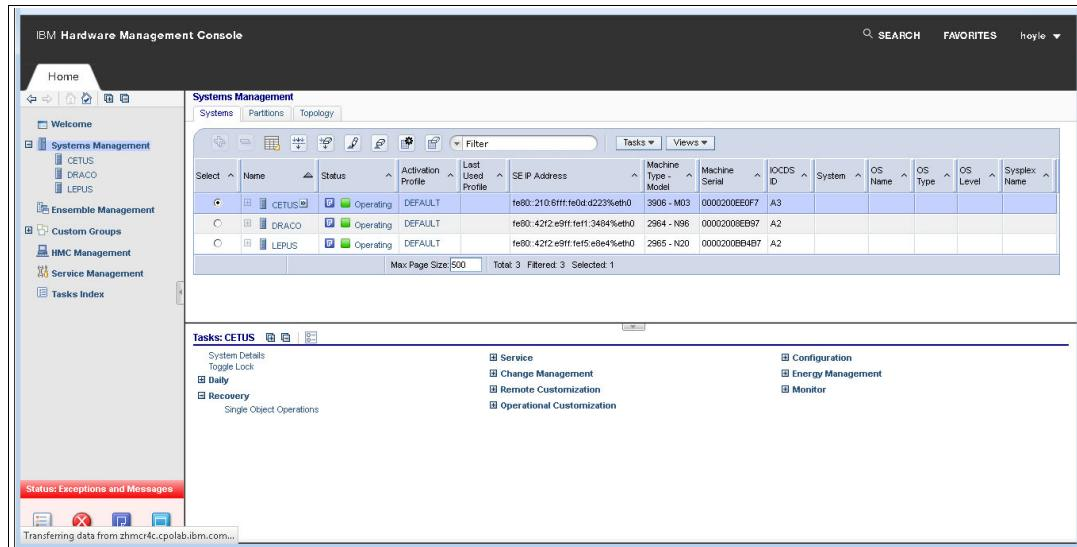

Figure 5-37 Systems Management: Main display
4. On the Tasks panel, click **Recovery** to expand it, and select **Single Object Operations** (Figure 5-37).